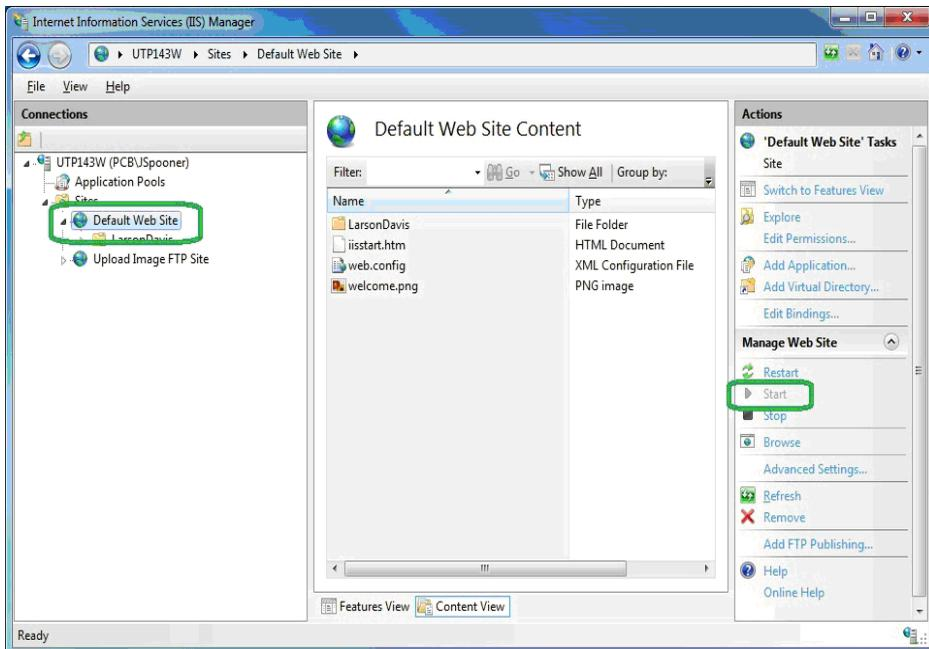

FIGURE 2-48 IIS Manager - Website Running
Step 4 If the main web page does not appear, verify that the web service is running. Click **Start** in IIS if it is not, as shown in FIGURE 2-48.